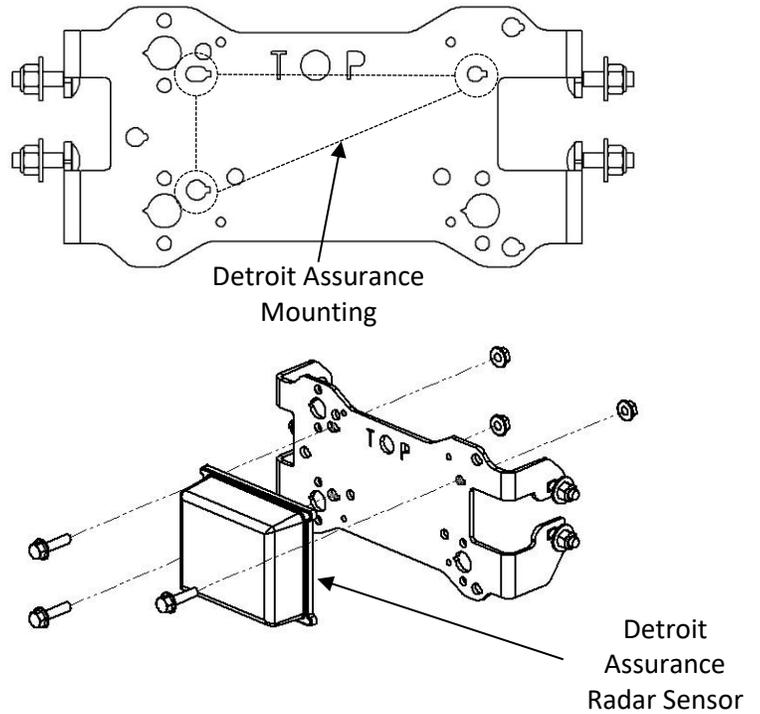

Figure 6 - Detroit Assurance Radar Sensor Installation
1. Mount Detroit Assurance sensor to HERD sensor bracket using OEM hardware. Use mounting hole pattern as shown in Figure 6.